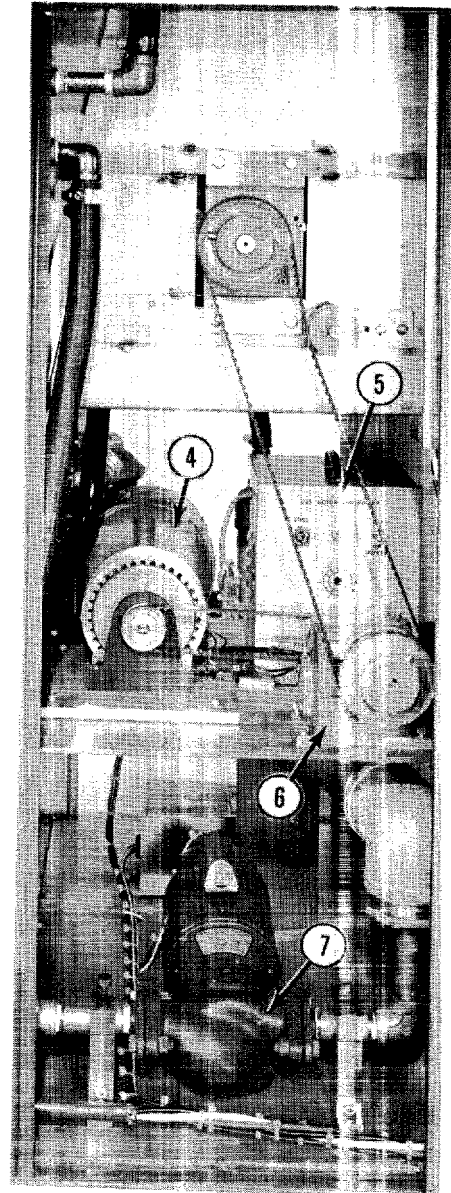

Figure 12. Auxiliary Drum Dryer Drive and Pump Assemblies
1.2.12.3 Drum Drive. The drum is powered by a quarter-horsepower electric motor whose speed is varied by an electronic controller and a micropotentiometer labeled SPEED CONTROL. The motor and associated drive components set on a shelf over the water pump and heater in the base of the dryer. See Figure 12.
- i. Motor Controller. All components for the controller are housed in an enameled steel cabinet mounted beside the drive motor on a shelf in the dryer base as shown in Figure 12. Controls on the face of the cabinet are described below: